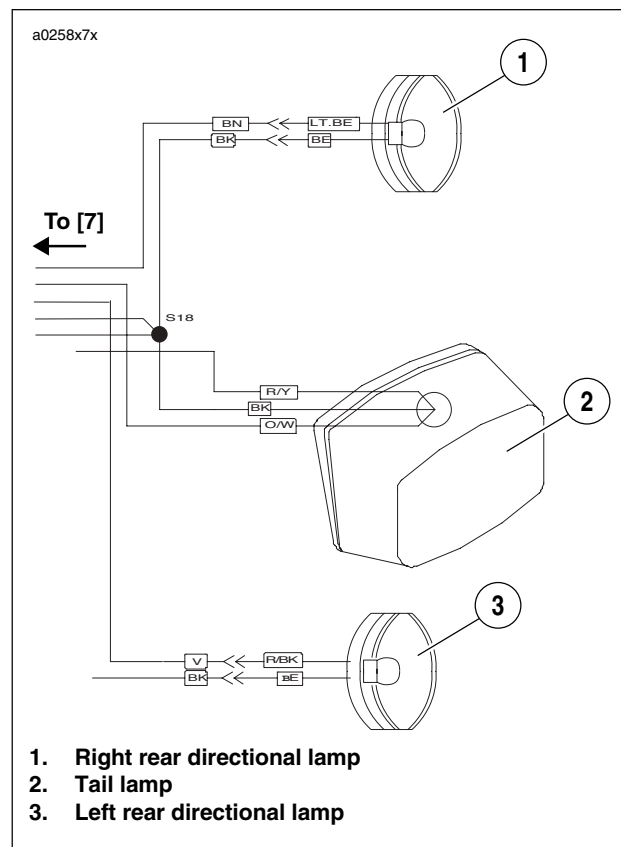

Figure 7-69. Rear Turn Signal Connections
- Attach two bullet connectors on turn signal wires as shown in Figure 7-69.